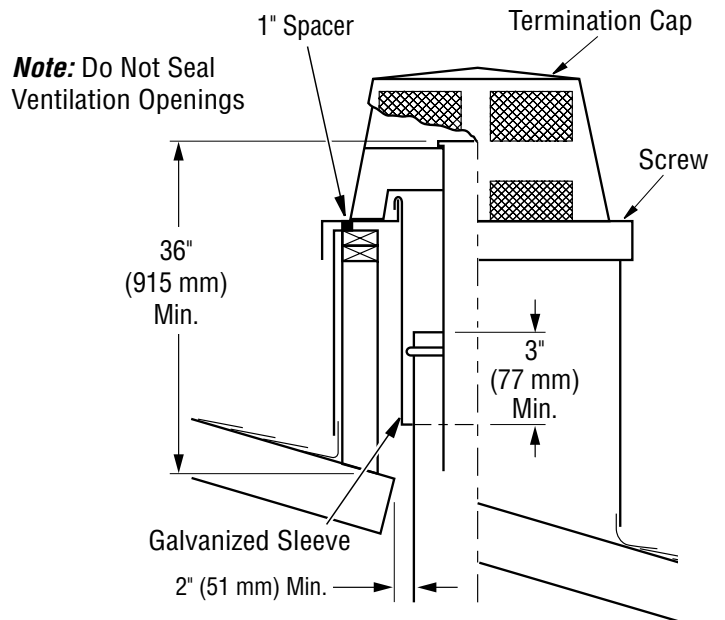

Figure 20 - Installing Termination Cap
5. Place galvanized sleeve through hole in flashing and around last section of chimney (see Figure 20).